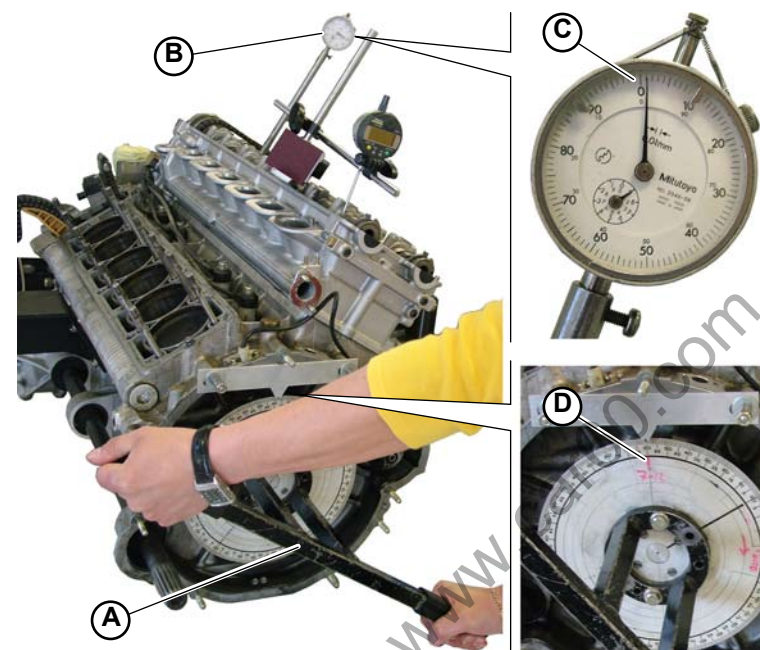

Fig.1
1. Assemble the crank mechanism on the crankshaft (**A-Fig.1**).
2. Assemble the dial gauge (**B-Fig.1**) on cylinder no.1 (no.7).
3. Turn the crankshaft, placing cylinder no.1 (no.7) at the TDC (top dead center); this is verified when the dial gauge's pointer indicates 0 (zero) (**C-Fig.1**).
4. Reset the goniometer according to the reference mark (**D-Fig.1**).